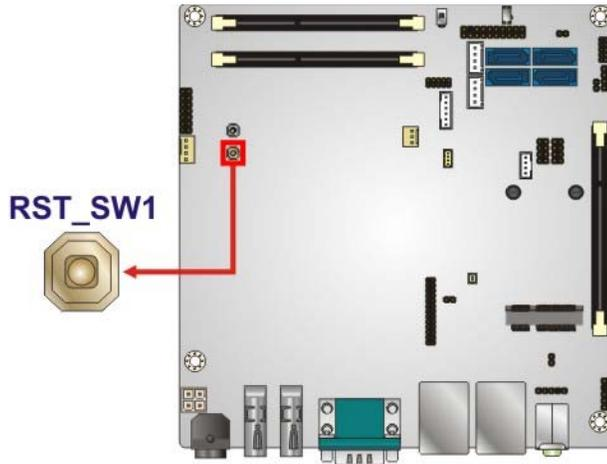

Figure 3-20: On-board Reset Button Location
- CN Location:** See **Figure 3-20**